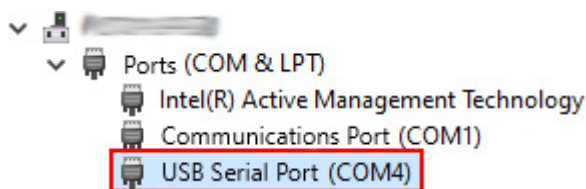

Fig. 7-3: USB Serial Port (COM4)
- ▶ The window *Device Manager* is then updated and shows the connected gateway module with COM address as *USB Serial Port (COM4)* (→ Fig. 7-3).